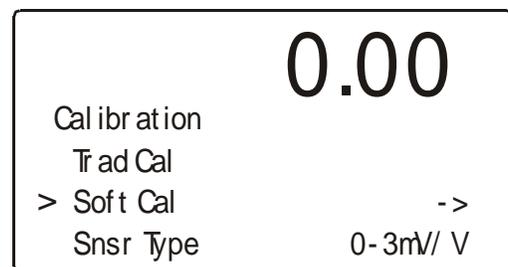

FIG. 2-19 CALIBRATION MENU/SELECTING SOFT CALIBRATION
- Step 1. In the Calibration Menu press the “-” button until the cursor is in front of Soft Cal. (See Fig. 2-19)